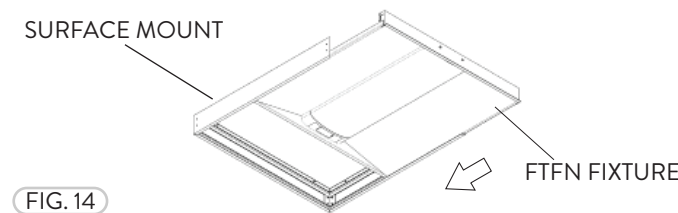

FIG. 14
- 3 Slide in the FTFN fixture through the open side of the Surface Mount. This is when all the wiring installations should be made as well. Refer to the wiring diagram (Fig. 14).